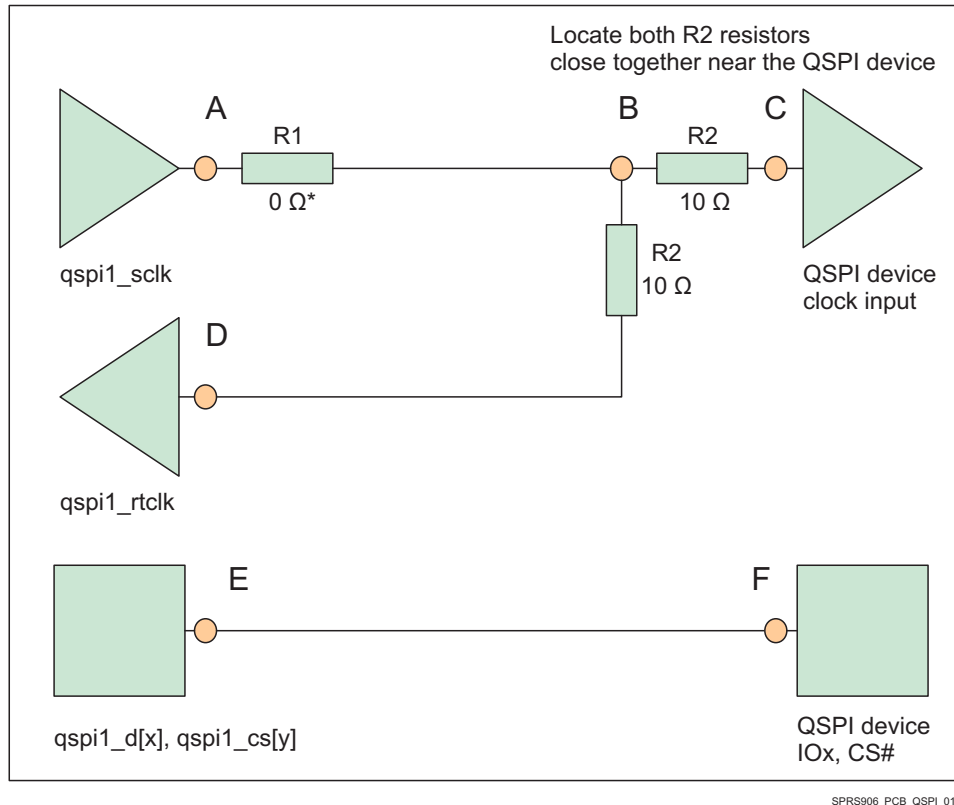

图 7-29. QSPI Interface High Level Schematic
- $50 \Omega$  PCB routing is recommended along with series terminations, as shown in 图 7-29.